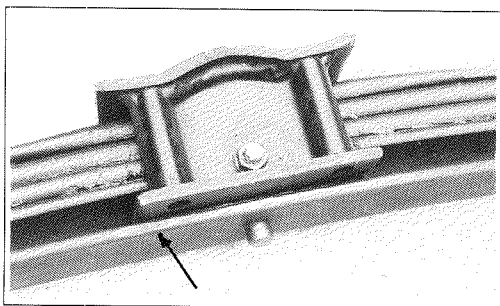

Fig 3. The ground edge of the lower leaf found only on 'early genuine' springs. The purpose is unknown.
b) On the 'earlier' springs, the edge of the main leaf was ground square at the centre on one side, fig 3. This was then the 'front' of the spring. 'Later' springs do not have the edge ground. However, the reason for the ground edge and giving the spring a front is unknown. If anyone knows, let us know.